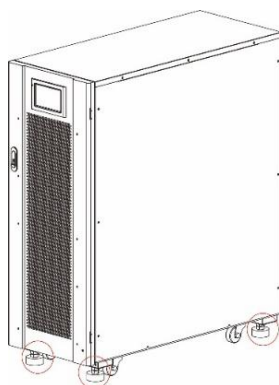

Fig. 3-3 Upward adjustment of support feet
Step 7: turn the wrench counterclockwise to raise the four support feet at the bottom of UPS until all the four wheels at the bottom of the case are evenly landed and the support feet are completely suspended. See Fig. 3-3.